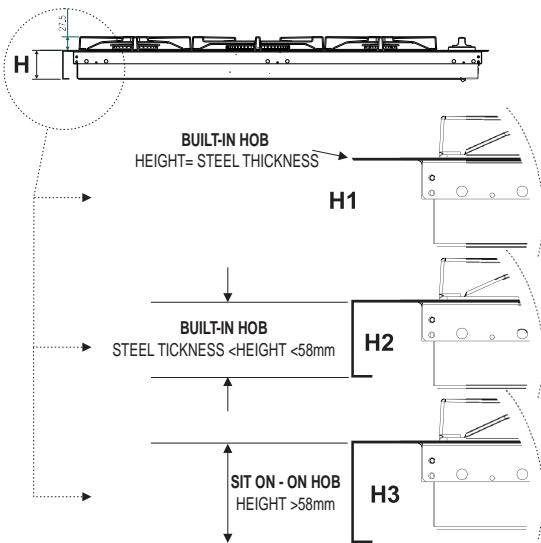
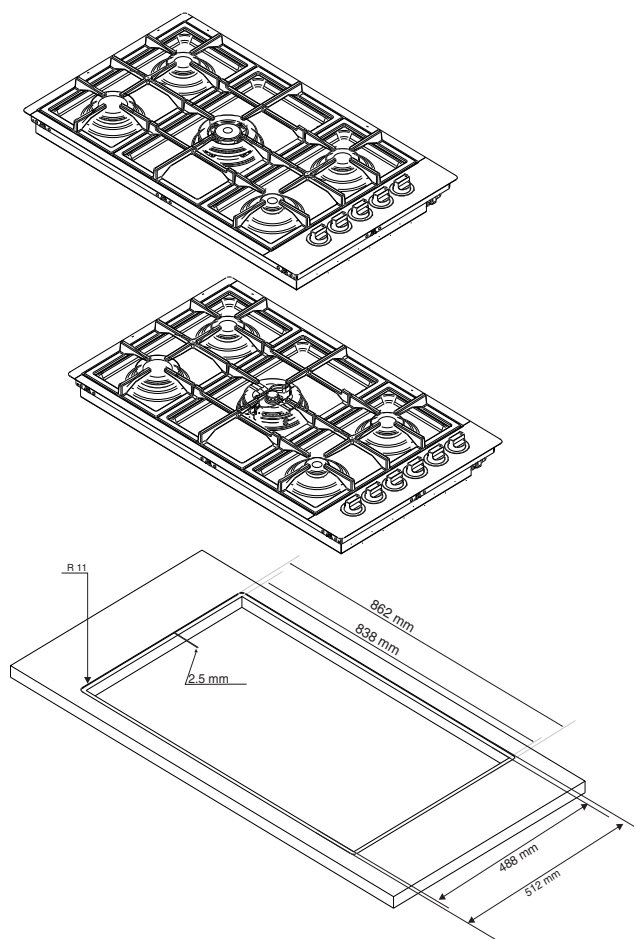
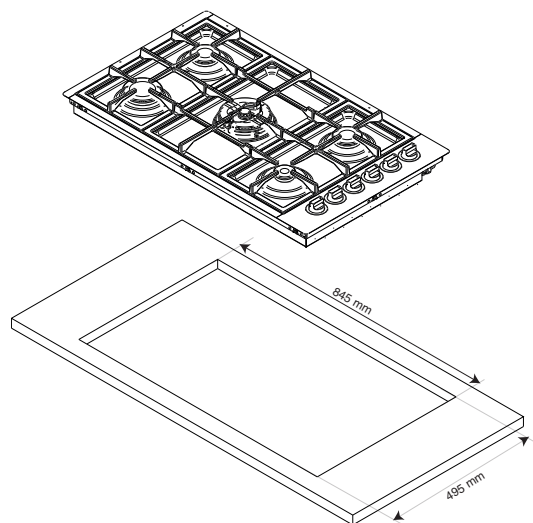
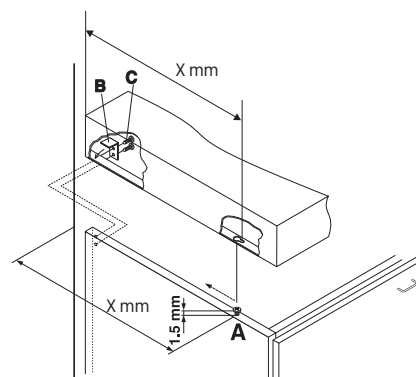

Fig.2
Fig.4a
Fig.4b
Fig.5
1- Built-in hobs to be slotted in (Class 3 - see figure 2, detail H1). In this case it is necessary to make a hole in the worktop whose measurements match those of the hob. The measurement at the side should be reduced by 1 cm so as to ensure that 1 cm of the perimeter of the hob overlaps with and rests on top of the supporting surface. To slot in the hob flush with the worktop, the cut-out on this supporting surface must be lowered (see figure 4a), so that both the edge of the hob and the seal under it can be positioned there. Before fitting the hob to the worktop, position the seal provided along the perimeter of the hob, as illustrated in figure 4b. Brackets for fixing hobs to the cabinet have been provided, and these should be fitted as shown in detail S (fig.3).
2- Built-in hobs (Class 3) with edges lower than 58 mm (see figure 2, detail H2). To install this type of hob, a hole large enough to accommodate the whole lower casing of the appliance must be made on the worktop intended to be under the hob. Remember to leave a gap of at least 1 cm between the lower casing and the worktop around the whole perimeter of the appliance (the underside of the casing can, however, touch the surface below it). To fit the appliances, follow the instructions given above in point 1 or use any supplementary instruction leaflet that is provided in special cases.
3- Sit-on hobs (Class 1) with edges higher than 58 mm (see figure 2, detail H3). In this case, the lower casing of the hob does not protrude further than the edge of the appliance. Even when the hob is resting on the worktop, it will suffice to leave space for the gas supply tube and electricity supply cable. To fit this type of hob, follow the instructions below (fig. 5):
- Fix the two screws provided "A" at a distance from the back panel as shown in figure 5, leaving the heads of the screws sticking out of the wood by 1.5 mm.